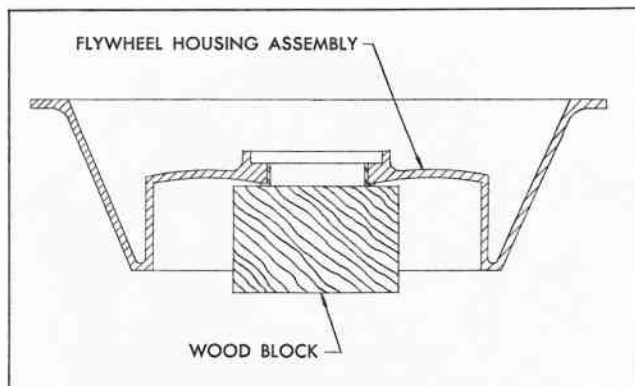

Fig. 10 Block Supporting Flywheel Housing
1. Position the flywheel housing on a wooden block so as to support the housing at the oil seal hole, instead of at the outer rim. (See Fig. 10)